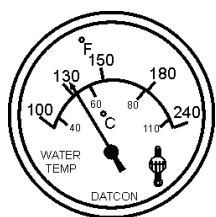

Figure 47. Coolant Temperature Gauge
11. The water temperature gauge (Figure 47) will indicate the coolant temperature. Under normal operating conditions the coolant temperature is between 165 and 215 degrees Fahrenheit.